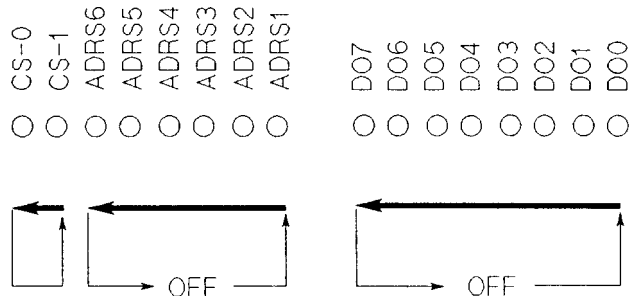

Figure 10-11. Bias Current Interface Function Test
- Confirm CS0 and CS1 LEDs on the simulator turn ON as the 4284A’s output signal is displayed on the LCD. (Refer to Figure 10-11).
- Confirm that ADRS1-ADRS6 LEDs on the simulator turn ON in accordance with the hexadecimal number displayed on the LCD. One of the 6 LEDs turns ON in sequence as shown in Figure 10-11.
- Confirm that DO0-DO7 LEDs on the simulator turn ON in accordance with the hexadecimal number displayed on the LCD. One of the 8 LEDs turns ON in sequence as shown in Figure 10-11.